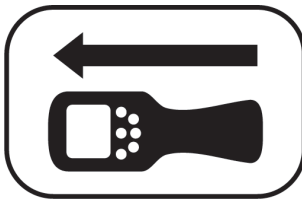

Fig. 31: Sticker on the step-voltage probe
A sticker on the top of the step-voltage probe indicates the required alignment of the step-voltage probe and receiver during the locating process (fig. 31).
- Correctly align the step-voltage probe and receiver using the sticker (fig. 31).
- Always ensure that the alignment of the step-voltage probe and receiver correspond to the sticker (fig. 31).